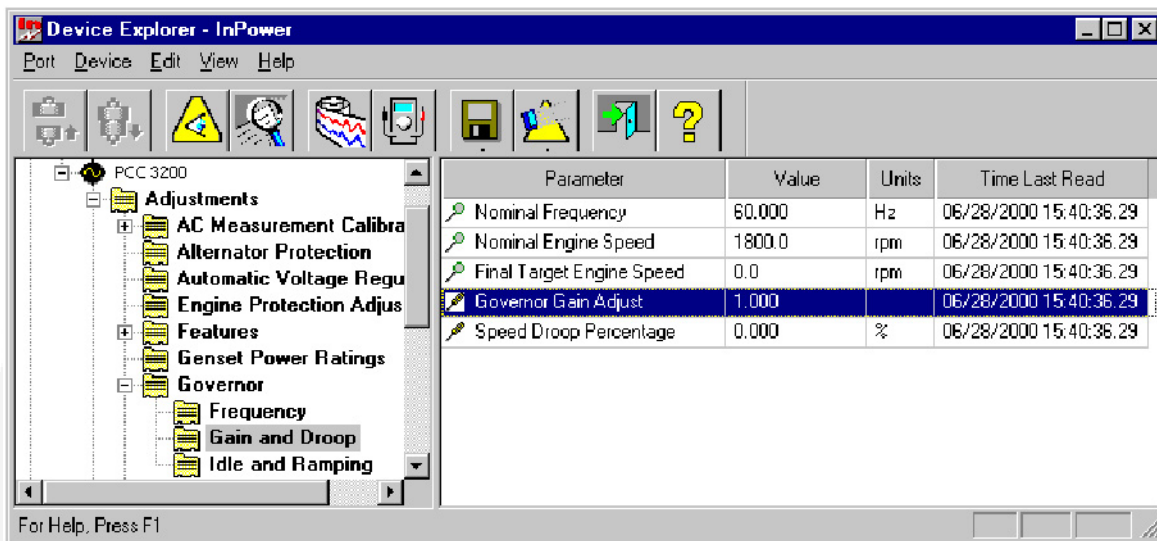

FIGURE 79. ADJUSTMENTS - GOVERNOR - GAIN AND DROOP
**Example:** In this example (Figure 79), InPower is used to adjust the governor gain (refer to the specific engine model T&R manual for additional governor adjustment details)